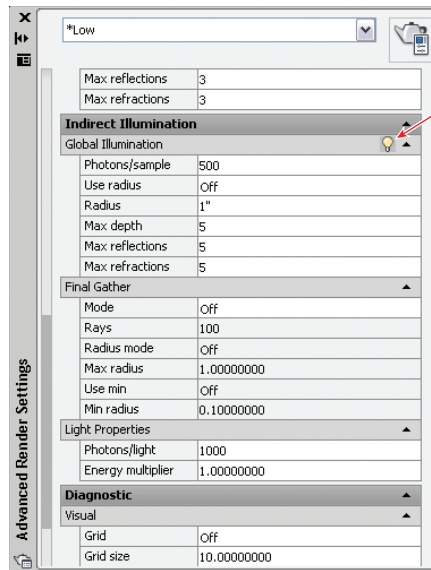

FIGURE 18.17 Toggling on global illumination
- If you're a Windows user, click the small icon at the right edge of the Render panel (or type **RPREF** and press Enter) to open the Advanced Render Settings palette. Scroll down in the palette, and toggle on Global Illumination by clicking the lightbulb icon shown in Figure 18.17. Mac users cannot adjust any advanced render settings.